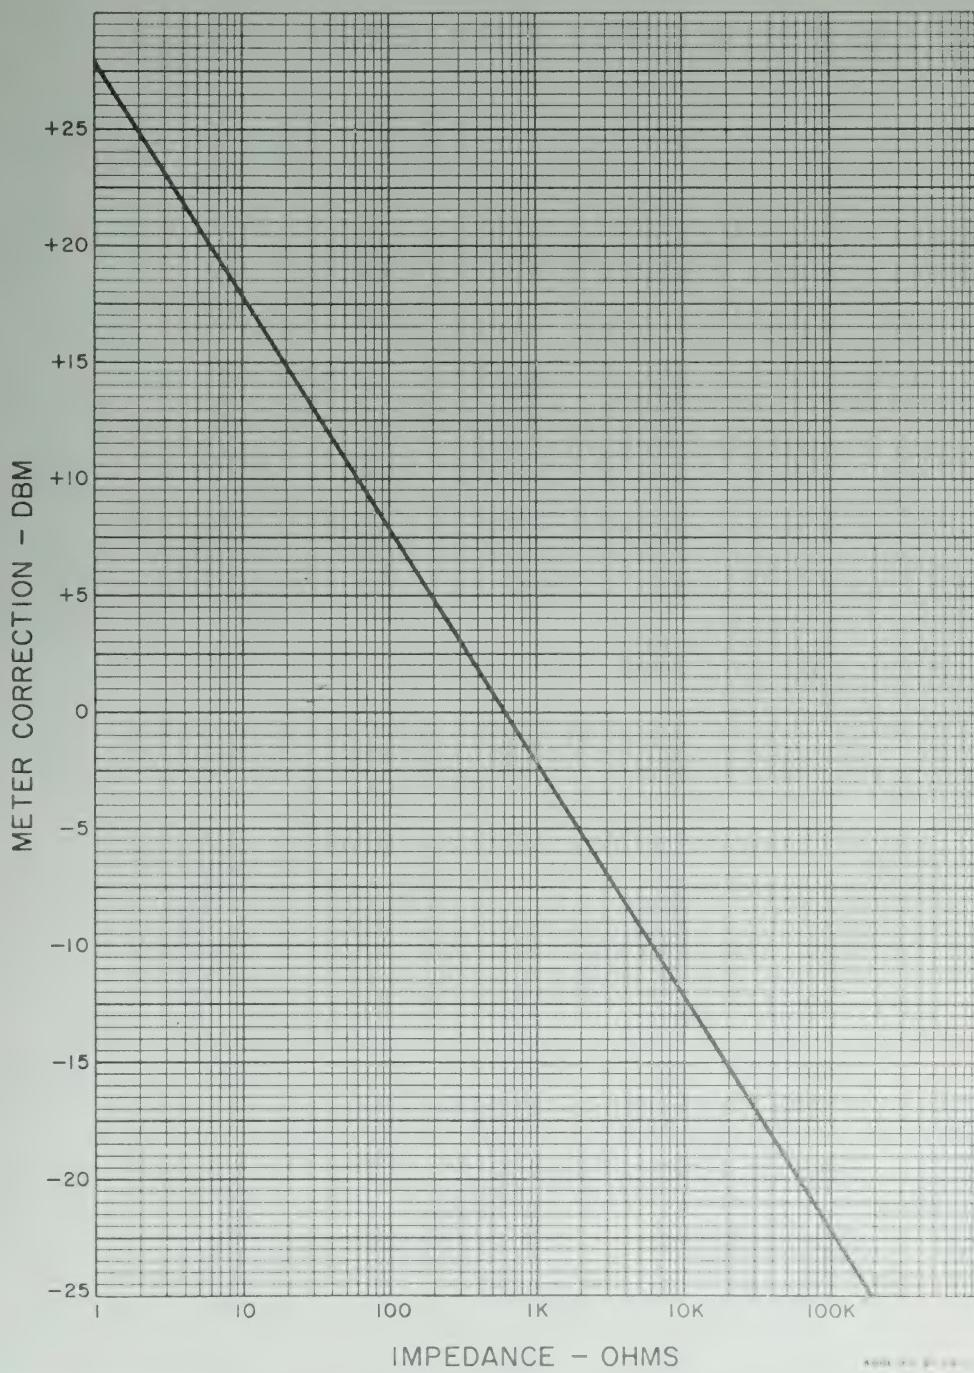

Figure 3-2. Impedance Correction Graph
- e. To convert a db reading to dbm, use the Impedance Correction Graph (Figure 3-2). For example: To convert a +30 db reading made across 50Ω to dbm, locate the 50Ω load impedance on the bottom of the graph. Follow the impedance line to the heavy black line and read the meter correction at that point. The correction for 50Ω is +10.5 dbm, and the corrected reading is +40.5 dbm.